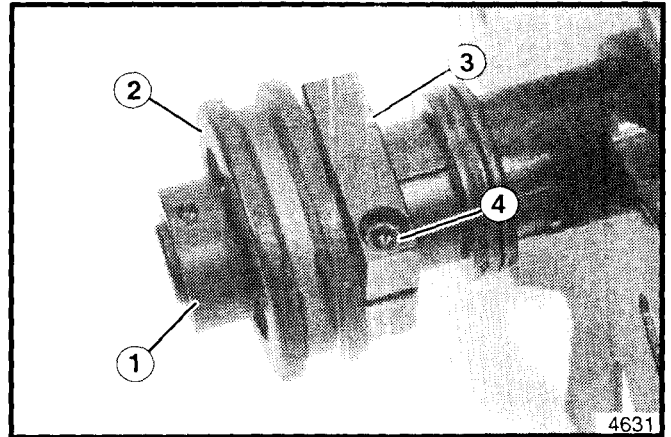

Figure 15. Reel Shaft Bearing Removal
1. On the end of the shaft opposite the pulley, loosen the set screw in the locking collar on the reel shaft. Insert a punch in the small hole on the collar and use a hammer to tap the collar clockwise until it's loose (approx. 1/4 turn). Remove the collar and remove the pillow block and bearing (see figure 15).
2. Loosen the socket head screw in the reel nut and remove the reel nut from the shaft (see figure 15).